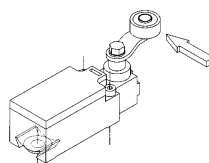

Fig. 2
- Additional positive location with guide discs (fig. 2)